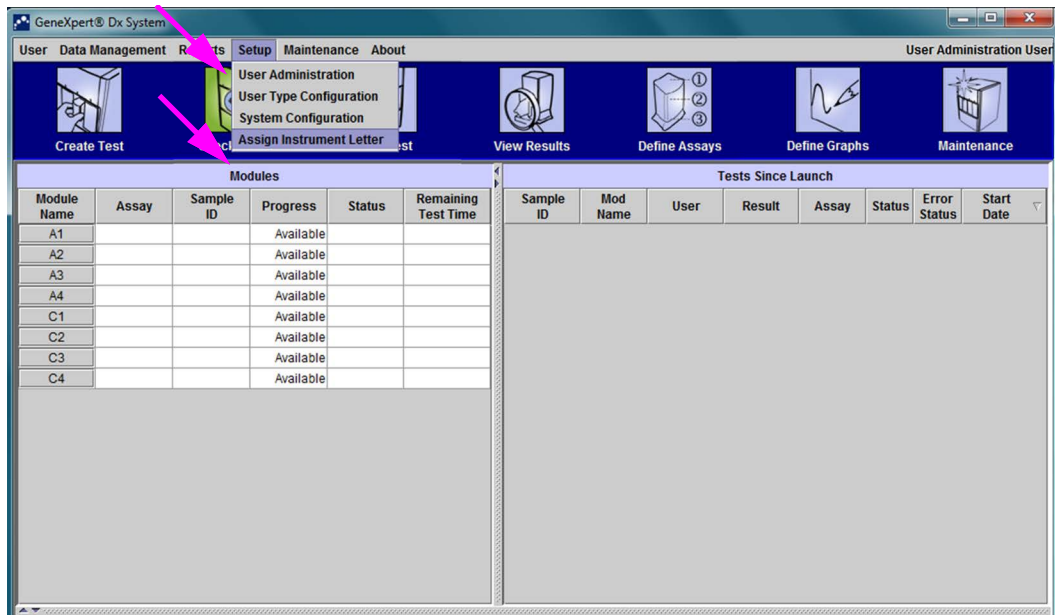

Figure 2-46. GeneXpert Dx System Window showing Setup Drop-Down Menu
1. In the Assign Instrument Dialog box, click **OK** to acknowledge the assignment of instrument letters. When the Assign Instrument Dialog box closes, the Database Management dialog box appears (see Figure 2-46).